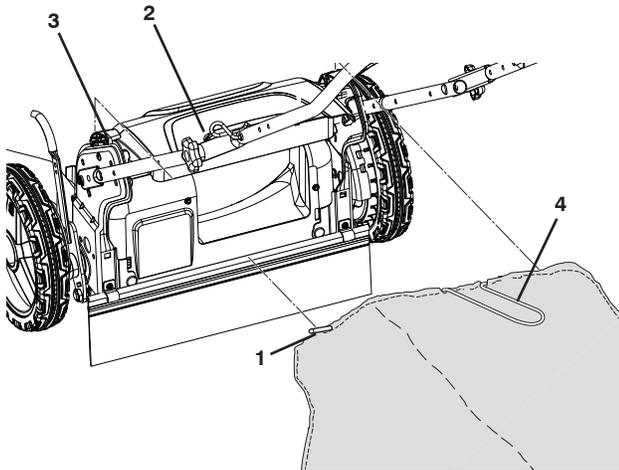

Figure 13
1. Lift rear door of the lawn mower and place the grass catcher frame hooks onto the grass bag brackets (Figure 13).